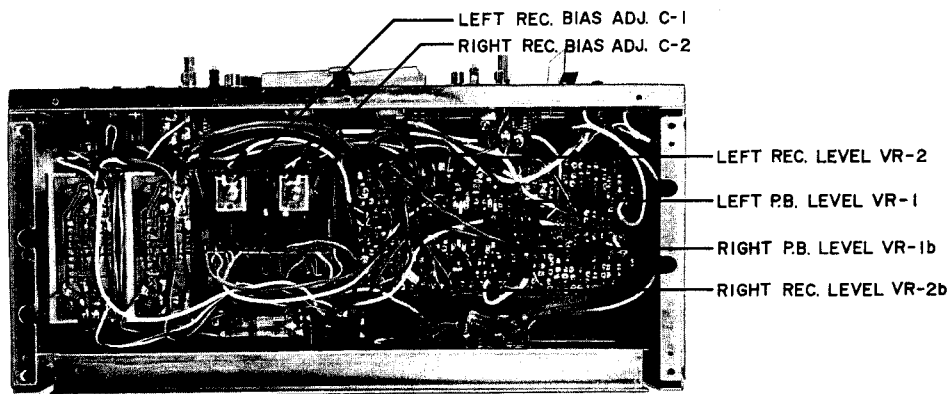

Fig. 15
4. PLAYBACK LEVEL ADJUSTMENTS (See Figs. 15, 16)
(See Figs. 15, 16)